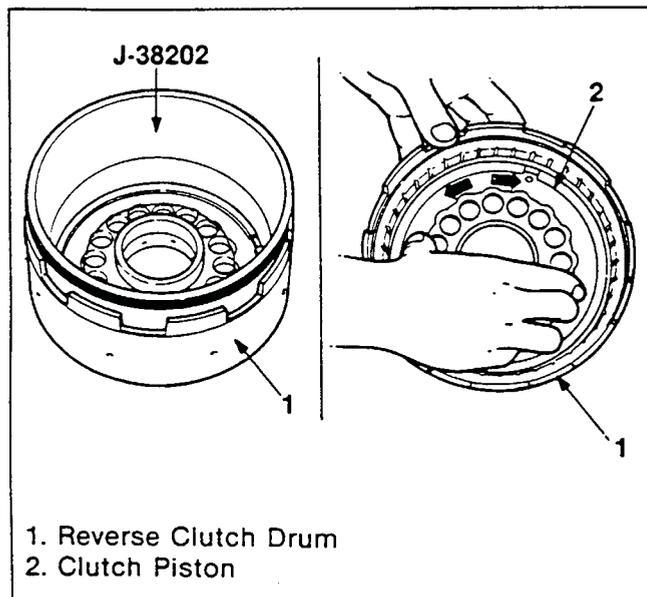

Figure 123. Clutch Piston Installation
Piston (Figure 123)
2. Insert the piston while turning it by hand. After it is put in place, check if it can be turned smoothly by hand (figure 123).